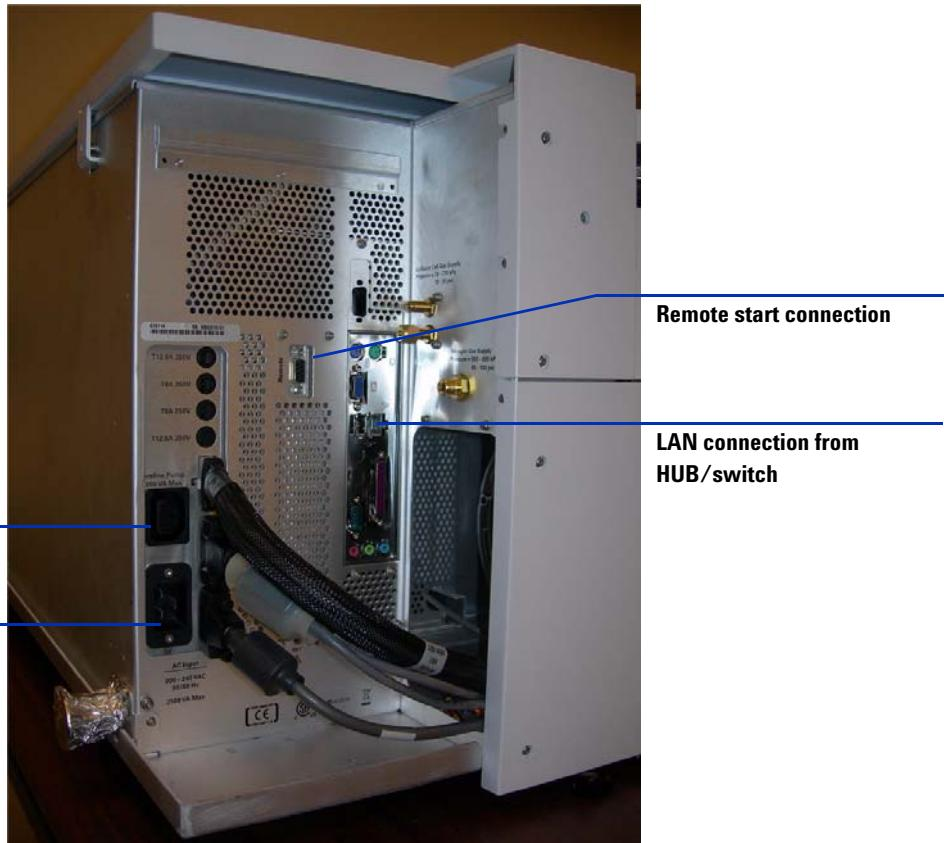

Figure 13 Power and electrical connection at back left side of Triple Quad
- 11** Connect the remote start cable to its connector on the back left side of the Triple Quad. See Figure 13.
- 12** Connect the rough pump power cord into the rough pump connector on the back left side of the Triple Quad (see Figure 13).
- 14** Plug the Triple Quad power cord into the Triple Quad power connector on the Triple Quad and the other end of the Triple Quad power cord into the wall outlet. See Figure 13.